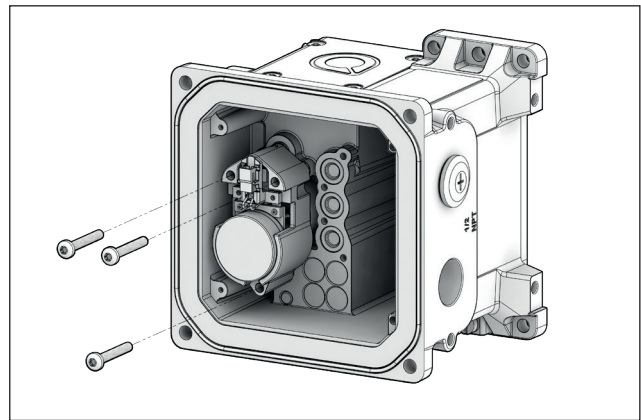

Fig. 82. NDX\_511\_ and NDX\_512\_ prestage location.
- under main cover and LUI module (Fig. 82)